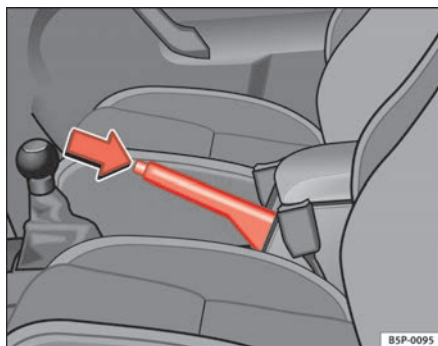

Fig. 146 Handbrake between the front seats
- Pull the handbrake lever up firmly ⇒ fig. 146.
- Pull the lever up slightly and press the locking knob in the direction of the arrow ⇒ fig. 146 and guide the handbrake lever down fully ⇒ ⚠.